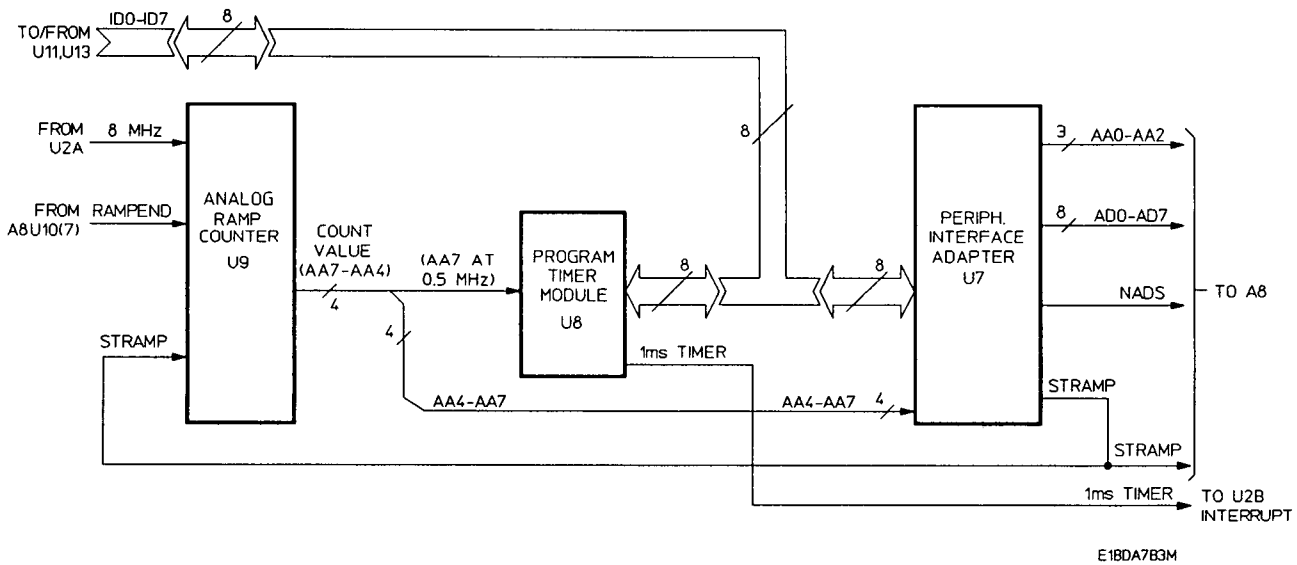

Figure 8-23. A7 A/D Interface Simplified Block Diagram
**ANALOG-TO-DIGITAL INTERFACE.** This circuit works together with the A/D Conversion circuit of the A8 Analog Assembly to convert the measured analog power to a digital value. As shown in the block diagram of Figure 8-23, the Analog-to-Digital (A/D) Interface circuit receives control signals from the Address Decoding and Control circuit, A8 Analog Assembly, and the CPU circuit. The A/D interface also receives data from the CPU circuit. The A/D Interface sends data and control information to the analog assembly, and sends the pulse signal to the 1 ms Interrupt circuit. Clock signals are received from the Timer circuit.